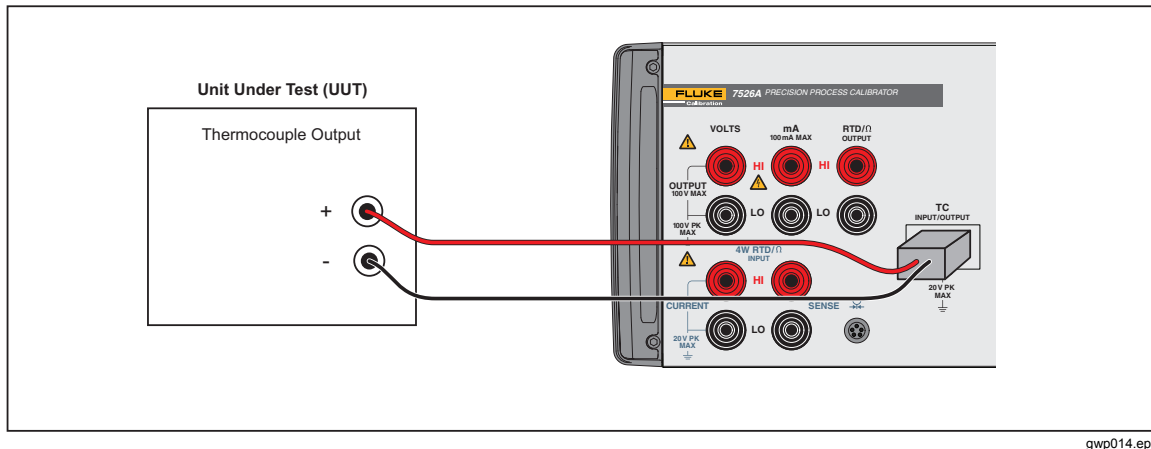

Figure 2-5. Thermocouple Input Connection
5. Connect the UUT to the thermocouple terminals of the Product with a standard TC miniplug as shown in Figure 2-5. One pin is wider than the other. Do not push the plug into the incorrect polarization. The TC wire used for the connection must agree with the thermocouple type selected for correct cold junction compensation. It is necessary for the miniplug and terminals to stabilize to the same temperature. They are stable in approximately 3 minutes.